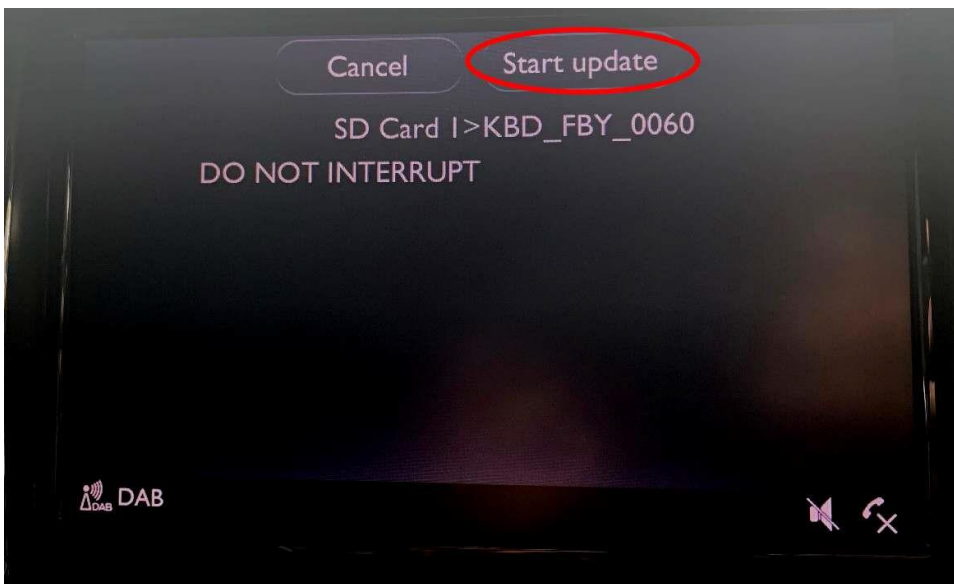

Figure 12
15. Select- Startupdate again on the following screen(Figure 12)